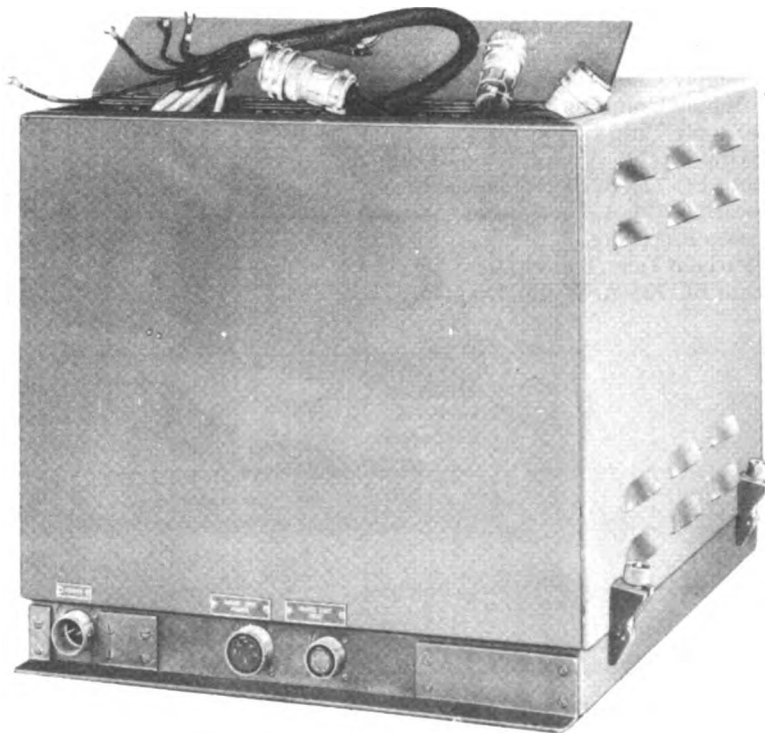

FIG. 2. CALIBRATOR BC-725-A, REAR VIEW
(1) means for setting the 29.5-kc shifter to twenty positions, eighteen electrical degrees apart,—the range unit calibration error for each position being the difference between the actual range unit dial reading and the nominal dial reading for that phase condition;
(2) means for checking the accuracy of the 1:18 phase shift relationship, or the tracking, between the two phase shifters of the range unit;
(3) a source of voltage at frequencies of 1.64, 29.5, and 295 kc for other test purposes.
d. A removable cover protects all apparatus. This cover contains a compartment (Fig. 2) accessible through a hinged lid for storing the fol-